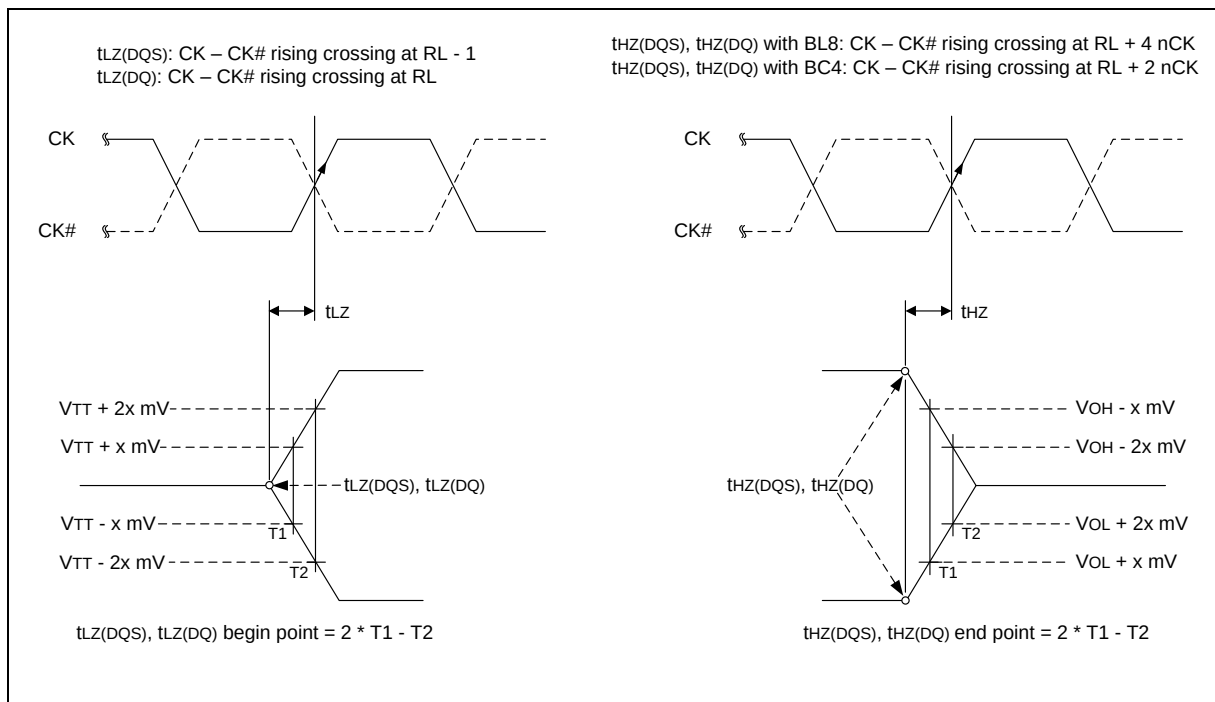

Figure 26 – tLZ and tHZ method for calculating transitions and endpoints
$tLZ(DQS)$, $tHZ(DQS)$ for preamble/postamble (see section 8.13.2.3 and Figure 26).
8.13.2.3 tLZ(DQS), tLZ(DQ), tHZ(DQS), tHZ(DQ) Calculation
tHZ and tLZ transitions occur in the same time window as valid data transitions. These parameters are referenced to a specific voltage level that specifies when the device output is no longer driving tHZ(DQS) and tHZ(DQ), or begins driving tLZ(DQS), tLZ(DQ). Figure 26 shows a method to calculate the point when the device is no longer driving tHZ(DQS) and tHZ(DQ), or begins driving tLZ(DQS) and tLZ(DQ), by measuring the signal at two different voltages. The actual voltage measurement points are not critical as long as the calculation is consistent. The parameters tLZ(DQS), tLZ(DQ), tHZ(DQS), and tHZ(DQ) are defined as singled ended.